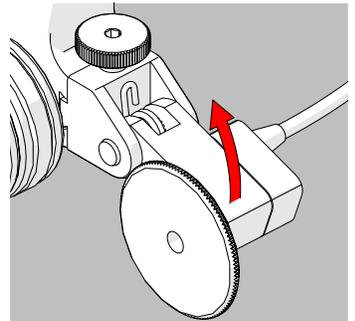

Fig. 38 - Place on scan surface
3. Spring tension maintains constant encoder contact with the surface (Fig. 38).